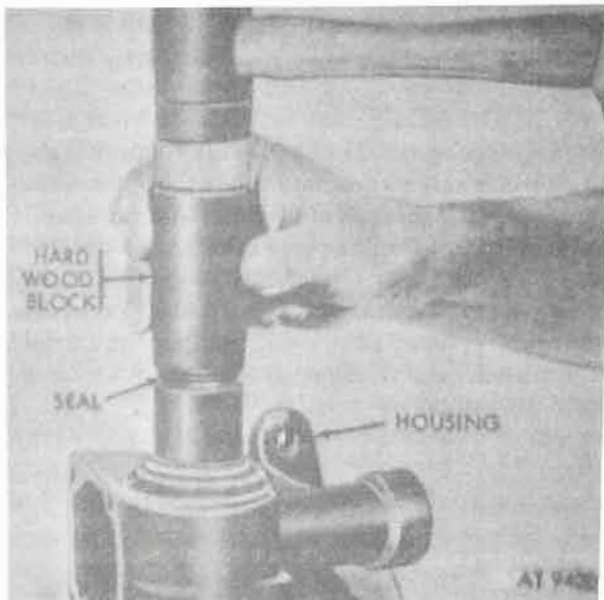

Figure 16-16. Installing steering wormshaft seal.
a. Install sector shaft seal and steering wormshaft seal as shown in figure 16-16. Pack seal with lubricant (GAA).